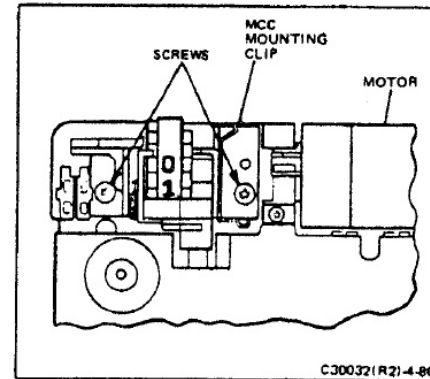

FIGURE 4-80 COUNTER BRACKET SCREWS
- Remove the two screws which secure the counter assembly to the inner frame (see Figure 4-80).